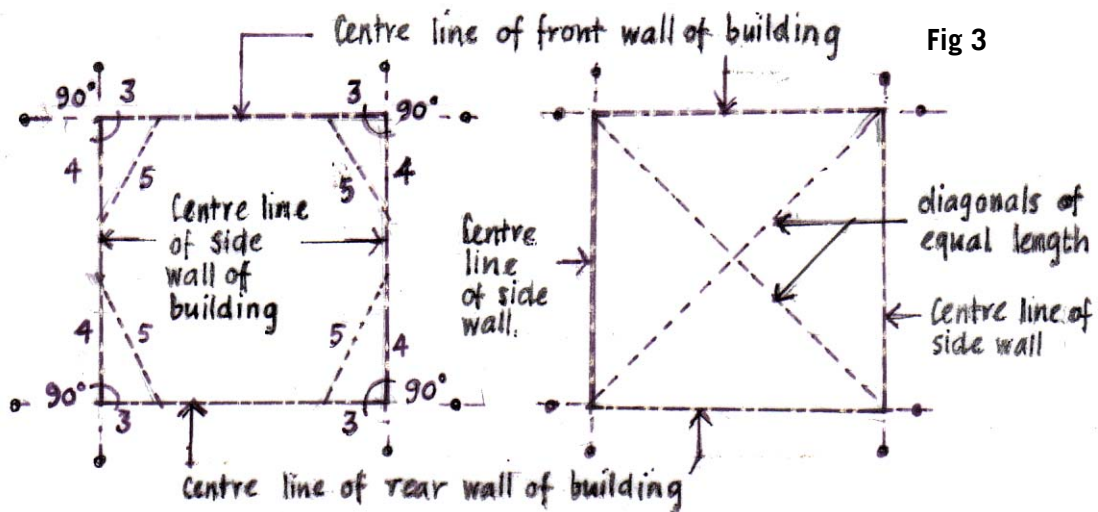

Fig 3
- Double check accuracy by ensuring that the diagonals between opposite corners of the square or rectangle are of equal length (See fig. 3)